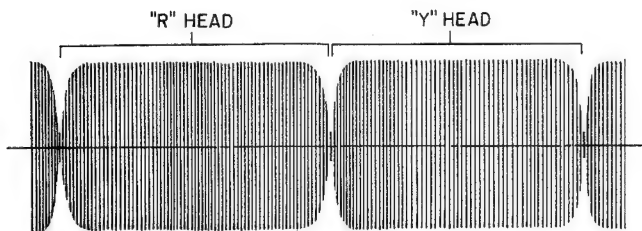

Fig. 1-22 Ideal RF Envelope (Correct Equalization)
(3) Adjusting the Head Assembly for Interchange
- Try to maintain an almost square shaped amplitude on R.F. Envelope as shown in fig. 1-22.